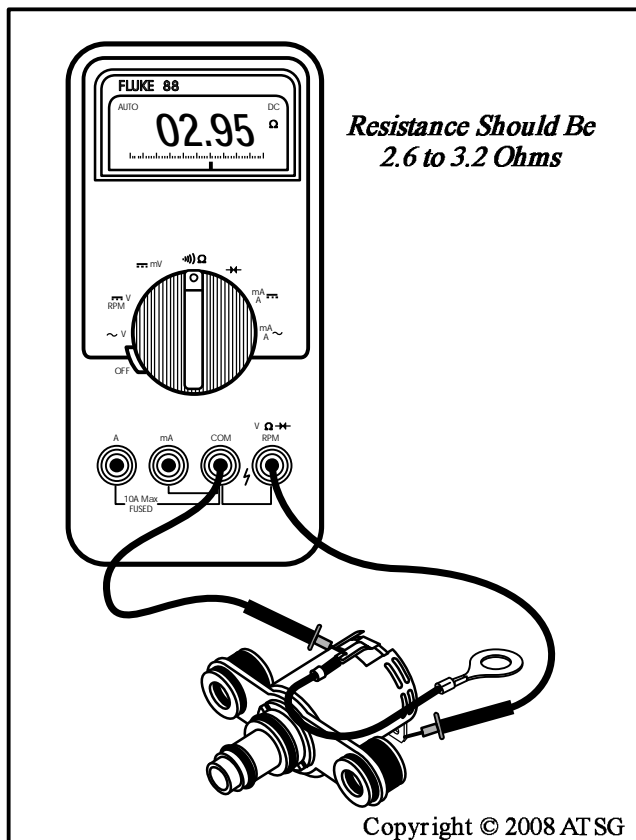

Figure 161
6. Check the line pressure solenoid for the proper resistance, as shown in Figure 161.